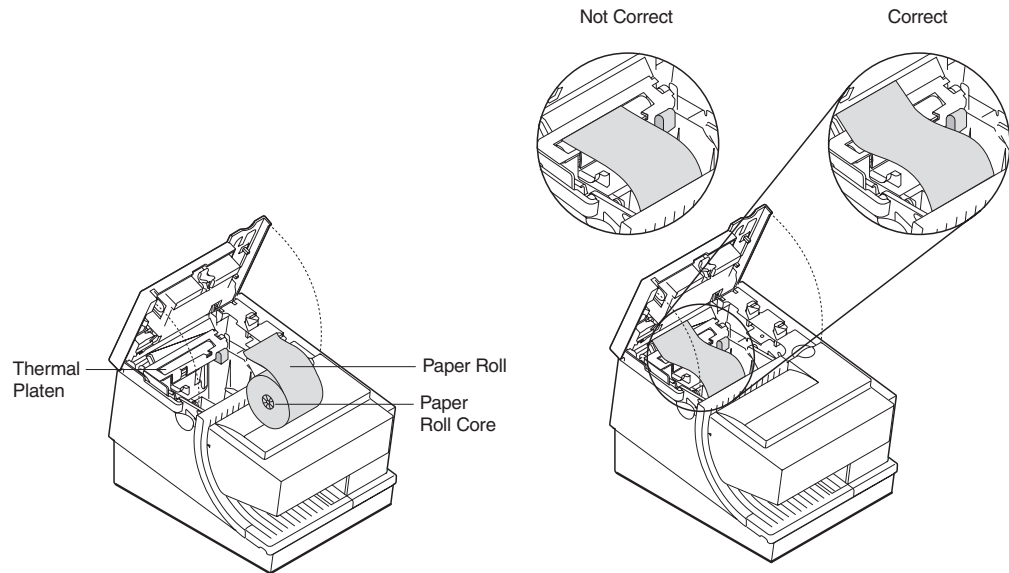

Figure 24. Paper Loading Path –: Models T15 and TG5
3. See Figure 24 on page 52 and place the paper roll into the paper roll bucket as shown. The leading edge of the paper should come from the direction of the front of the printer and go across the top of the roll as shown in the diagram. If it feeds from the bottom of the roll, nothing will be printed on the paper.
4. Place the leading edge of the paper over the metal guide. See Figure 24.